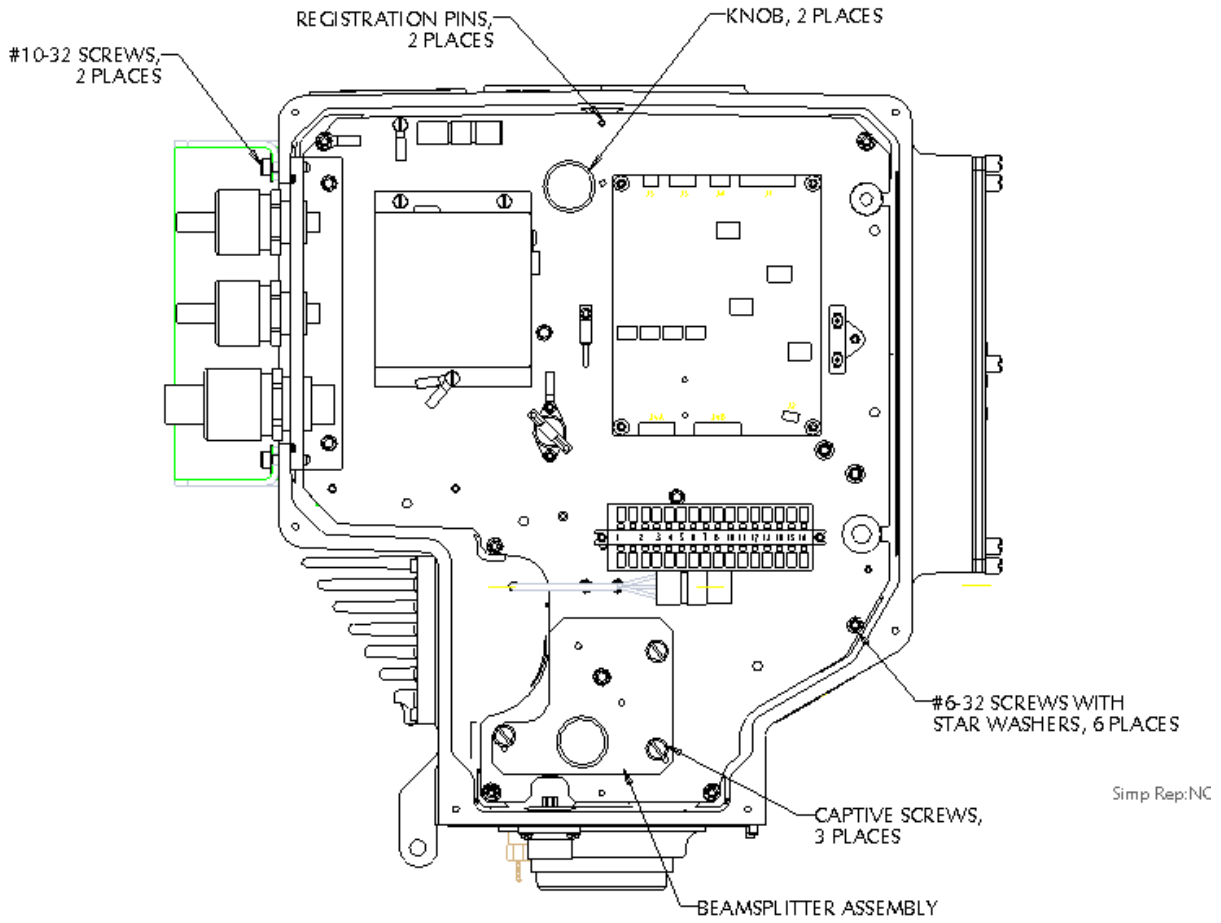

Figure 8-1: Transceiver
3. Remove the six #6-32 socket head cap screws that have star washers under the heads. They are located along the edges of the plate (See Figure 8-1).
3. Loosen the three captive screws that hold the beam splitter in place (See Figure 8-1). Gently pull up on the knob located at the approximate center of the assembly. The assembly is pined so it may take a little force to get it to pop off. Remove the assembly being careful not to hit the glass beam splitter against anything.